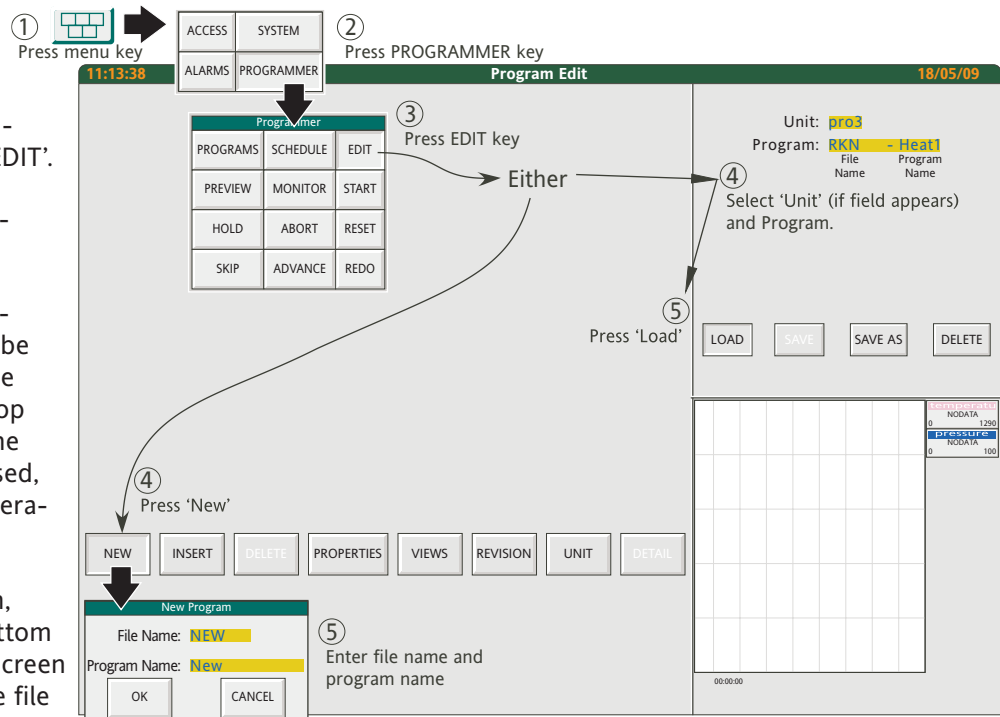

Figure 4.12.2 Default edit page access
As shown in figure 4.12.2, to display the default edit page, press the menu key, then 'PROGRAMMER' and finally 'EDIT'.
1. Press the 'NEW' key near the bottom left-hand corner of the screen, and enter a suitable file name and program name, as shown in figure 4.12.2, above.